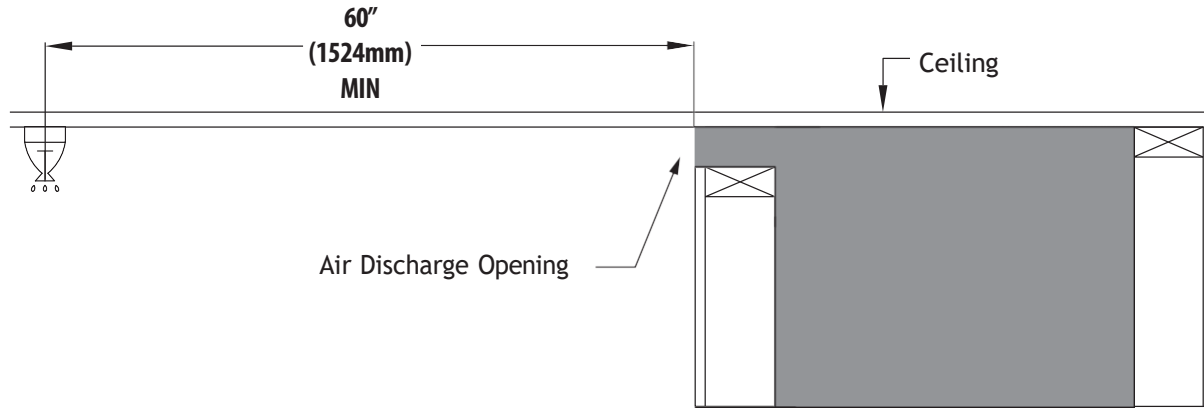

Figure 3.13, Clearance from Air Discharge Opening to Sprinkler Head
- In a situation where a sprinkler head is installed within the proximity to a vented cavity air discharge opening, Figure 3.13 MUST be followed.